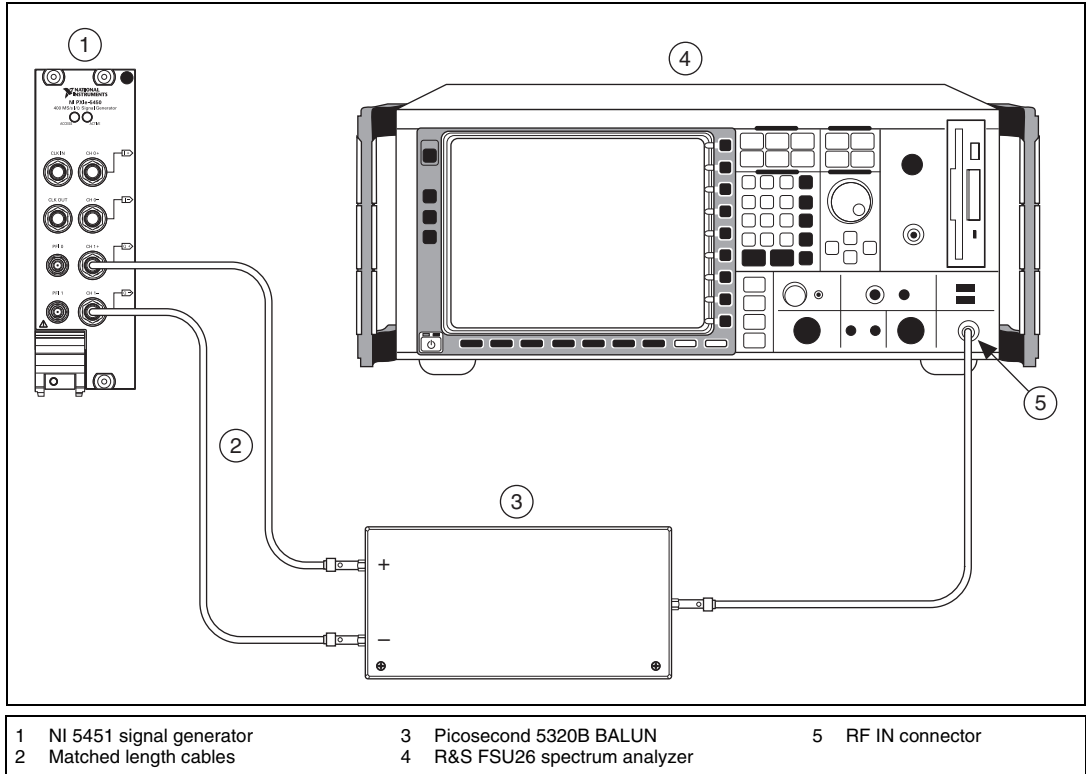

Figure 14. NI 5451 Connection to Spectrum Analyzer Using a BALUN (CH 1)
12. Connect the differential CH 1 on the NI 5451 through the BALUN to the spectrum analyzer, as shown in Figure 14.
11. Connect the differential CH 1 on the NI 5451 through the BALUN to the spectrum analyzer, as shown in Figure 14.